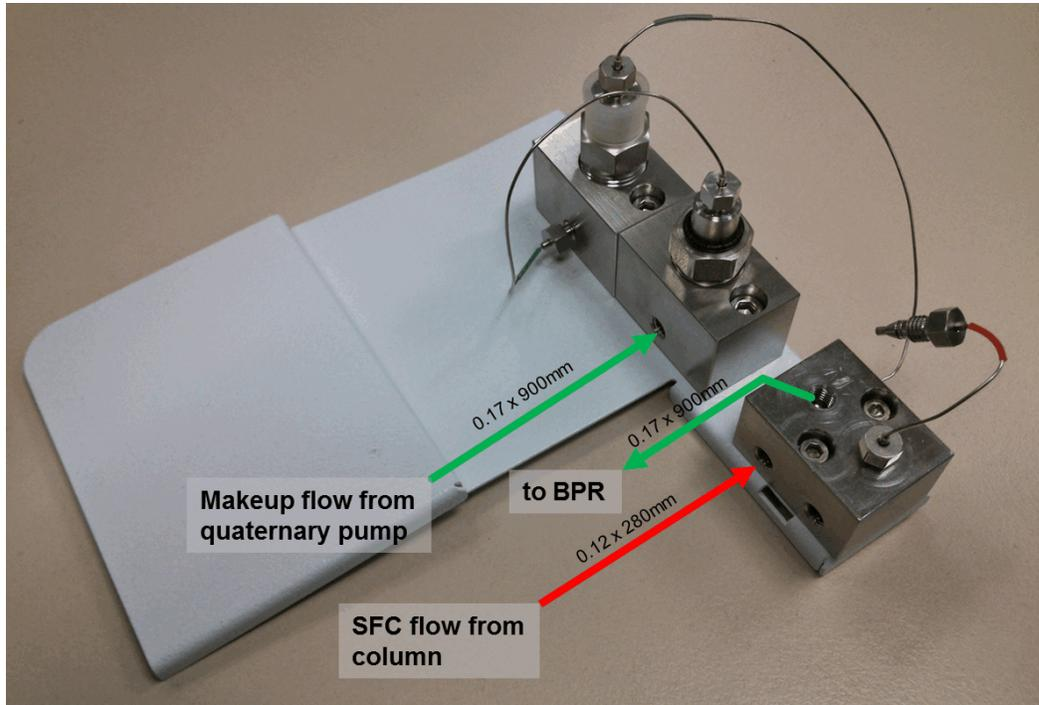

Figure 6 Plumbing of the splitter kit for full flow connection to the MS
- 1 For full flow connection to the MS source, only one of the splitter tees is used to combine the makeup flow. For this operation mode, unscrew the connection capillary of the double tee as shown in Figure 6 on page 8 and attach the BPR connection capillary instead.